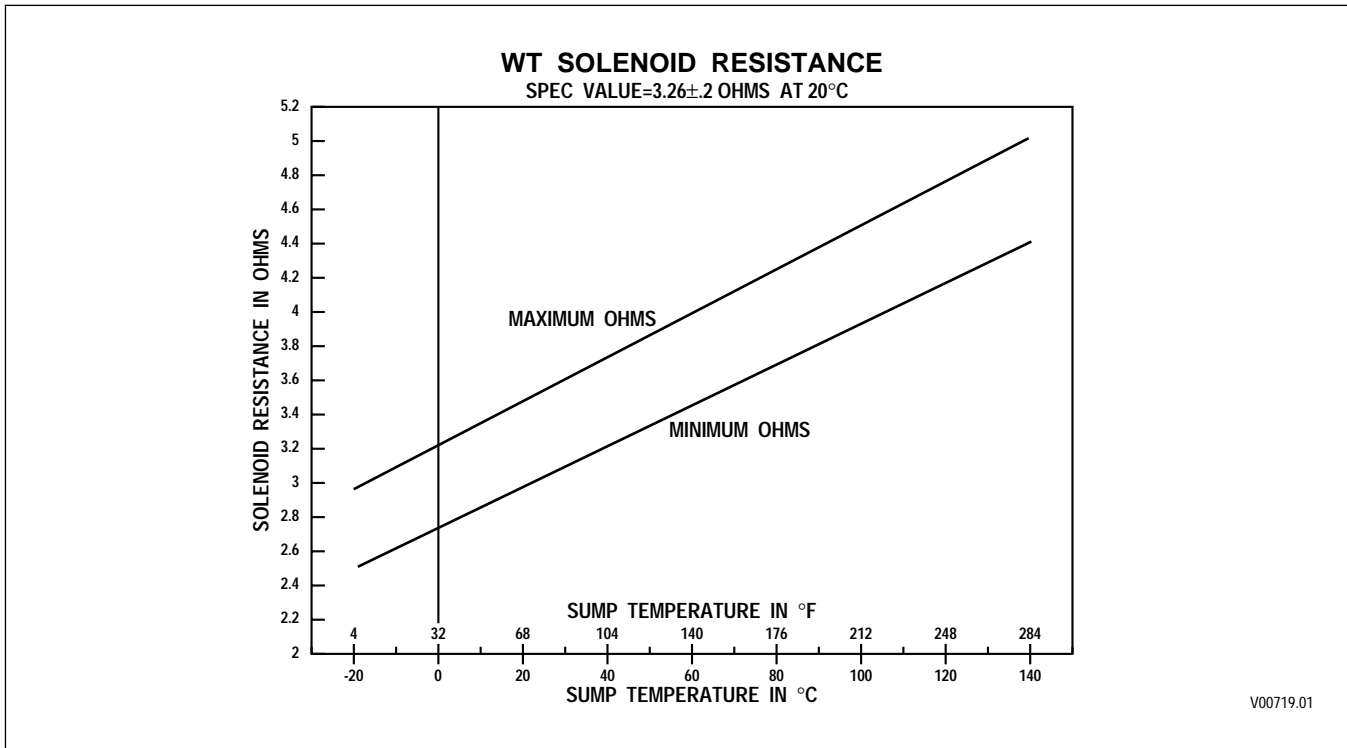

Figure 6–31. Solenoid Resistance vs. Temperature
CODE 43 XX — SOLENOID LOW SIDE CIRCUIT, OPEN DRIVER, OR WIRE SHORTED-TO-GROUND (Figures 6–27, 6–28)
2. If the external harness-to-transmission connection is satisfactory, check the solenoid circuits at the transmission connector for a short-to-chassis ground or a short-to-ground wire. (Tool J 38850 may be useful in making this test.) If a short is found, drain the fluid, remove the control module (refer to the Service Manual), isolate and repair the short. The short will probably be in the internal wiring harness (refer to Figure 6–1 for solenoid location).
(Figures 6–29, 6–30)
When testing the control system from the feedthrough connector with the internal harness connected, contact with the following pairs of terminals will result in resistance measurements of two solenoids through a shared ground. The resistance should be twice that of a single solenoid. Refer to Figure 6–31 for resistance values versus temperature.
(*Figures 6–29, 6–30*)**Troubleshooting:**
2. If the connector is connected, clean, and not damaged, check the solenoid circuit in the transmission for shorts to other wires. (Tool J 38850 may be useful in making this test.) Refer to the system schematic and/or chart to identify wires in the internal harness which are connected. If the short circuit is found, drain the fluid, remove the control module (refer to the transmission Service Manual), and isolate the short. The short is probably in the feedthrough connector, internal harness, or the solenoid itself (refer to Figure 6–1 for solenoid locations).
(Figures 6–32, 6–33)
CODE 45 XX — OPEN CONDITION IN SOLENOID CIRCUIT*(Figures 6–32, 6–33)***Troubleshooting:**
2. If the connector is connected, clean, and not damaged, check the solenoid circuit in the transmission for opens. Refer to the system schematic and/or chart to identify wires in the internal harness which are connected. If the open circuit is found, drain the fluid, remove the control module (see the transmission Service Manual), and isolate the open. The fault will be in the feedthrough connector, internal harness, or the solenoid itself (see Figure 6–1 for solenoid locations).